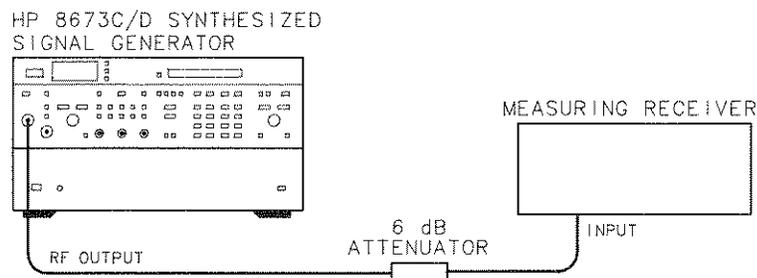

Figure 4-34. Incidental FM Test Setup, Part One
1. Connect the equipment as shown in Figure 4-34.